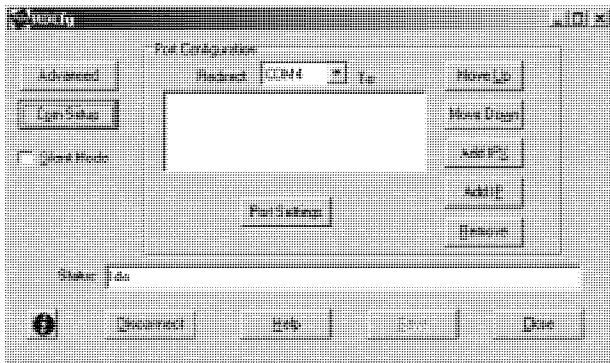

Figure 22: Com Port Redirector Configuration Window
5. Click the **Start** button in the Windows Taskbar, point to **Programs**, point to **Lantronix Redirector**, and click **Configuration**. The Com Port Redirector Configuration window appears (see Figure 22).
7. Click all the logical ports to which the PC will be redirected. A checkmark appears next to each logical port selected. Each port selected will be available from the **Redirect To** drop-down list in the Com Port Redirector Configuration window (see Figure 22).
1. Click the **Start** button in the Windows Taskbar, point to **Programs**, point to **Lantronix Redirector**, and click **Configuration**. The Com Port Redirector Configuration window appears (see Figure 22).
10. Click the **Save** button (see Figure 22).
11. Click the **Close** button (see Figure 22).